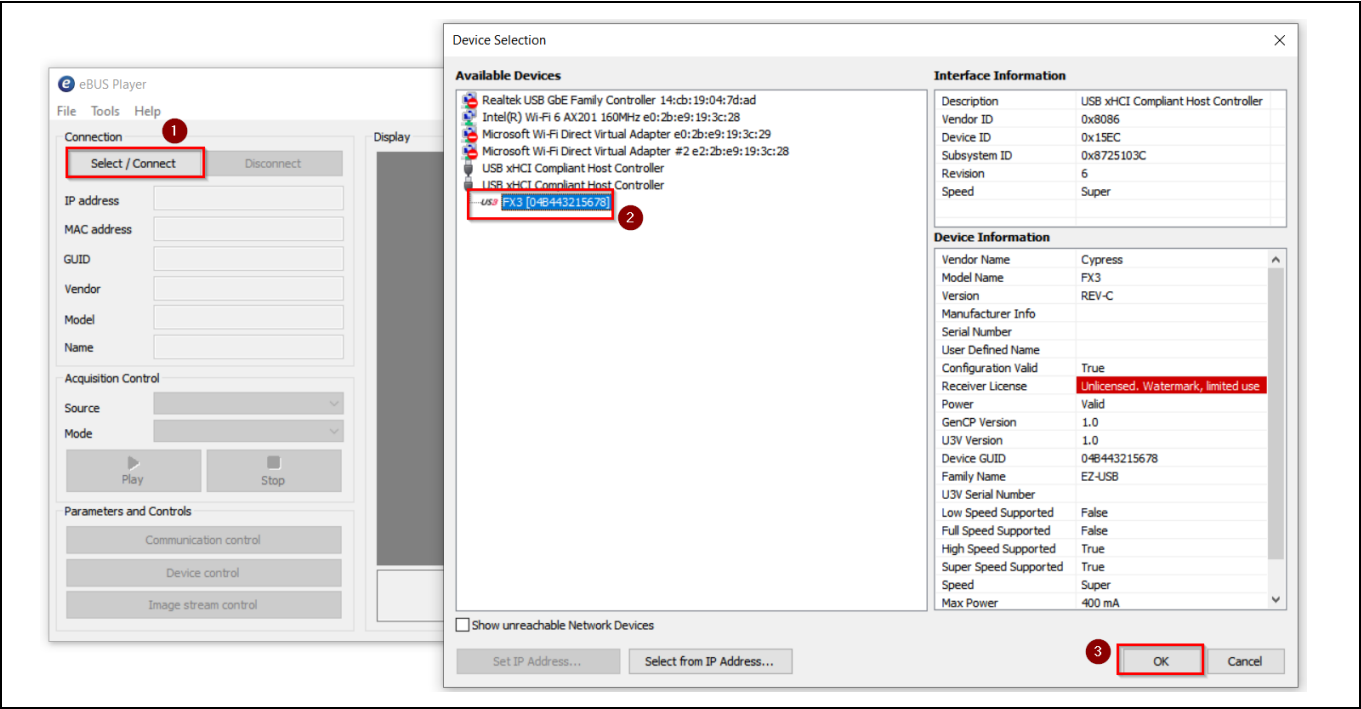

Figure 16 Selecting USB3 Vision device in eBUS Player application
7. Click Select/Connect from the eBUS Player. Check if FX3 is detected as shown in Figure 16.